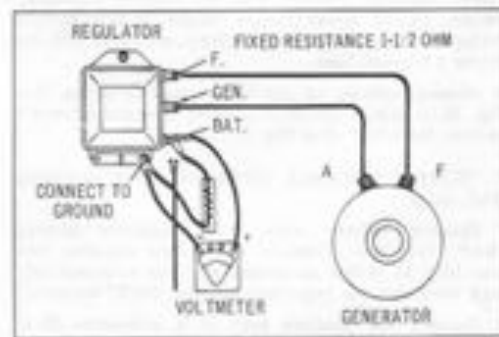

Figure 51-6.
B. TESTING CUTOUT UNIT SETTING AND VOLTAGE CONTROL UNIT SETTING (FIG. 51-6)